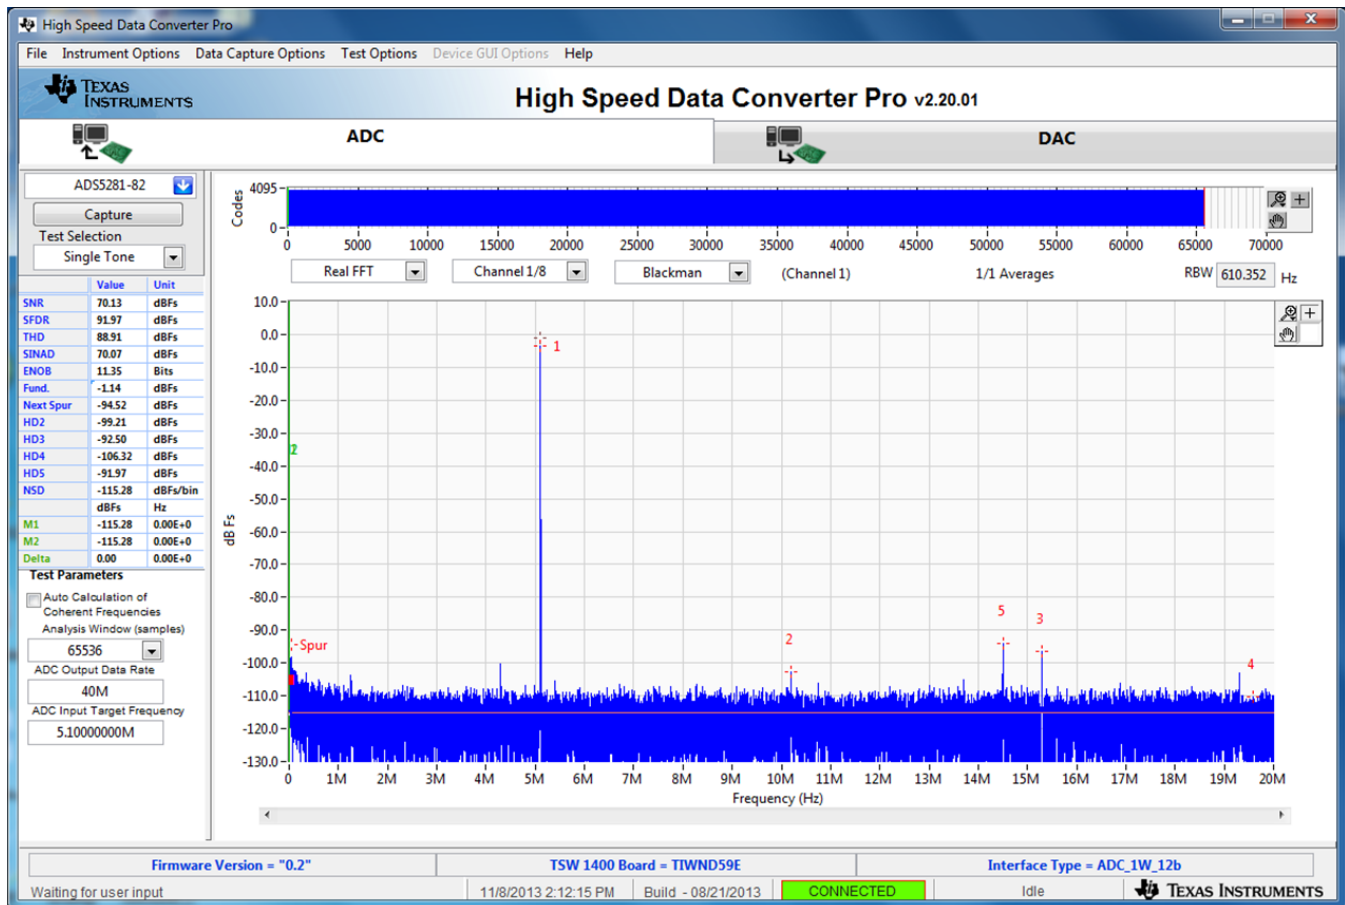

Figure 8. ADC5281 Single Tone FFT Capture Results
- Click on the “Capture” button to perform a data capture. The results should like similar to those shown in Figure 8.